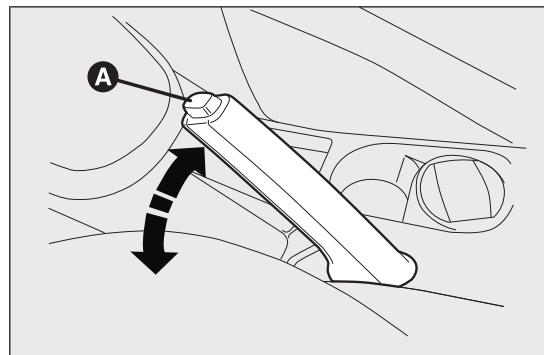

fig. 119
- slightly lift the handbrake and press release button A fig. 119;